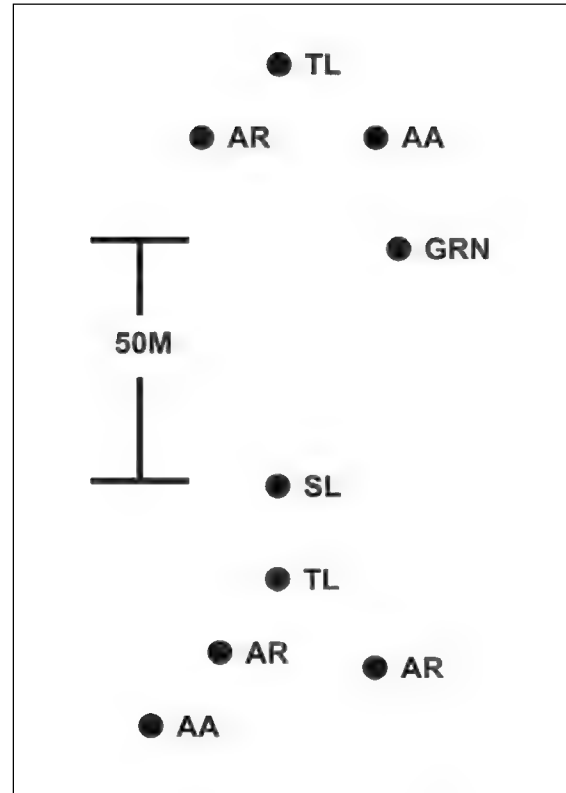

Figure F-12. Traveling overwatch movement technique.
(2) **Traveling Overwatch.** The squad or platoon uses *traveling overwatch* (Figure F-12, page F-9) when contact with the enemy is possible. Traveling overwatch resembles the traveling technique, except with greater distance between the lead fire team or squad and the remainder of the element.